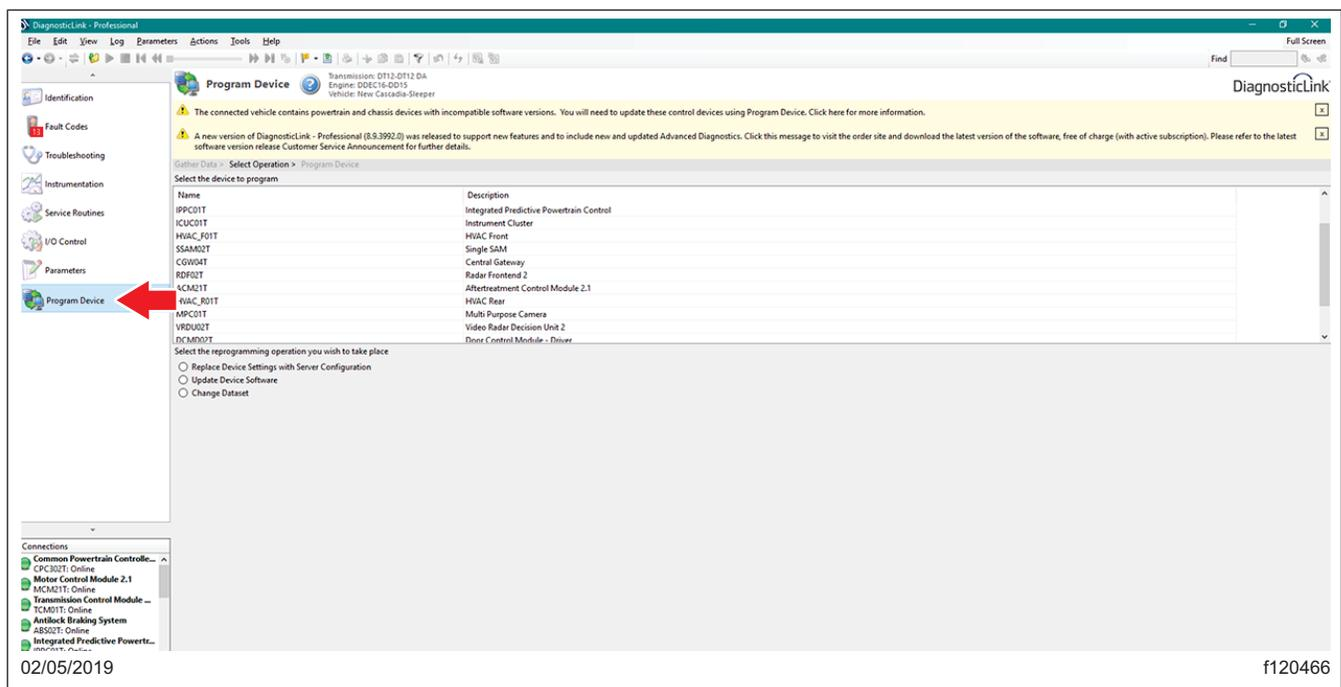

Fig. 1, Updating DiagnosticLink to the Latest Version
3. Connect the vehicle to DiagnosticLink. Make sure that DiagnosticLink is updated to 8.10, or later. To update DiagnosticLink, select "Update" from the dropdown menu under "Tools." See Fig. 1.